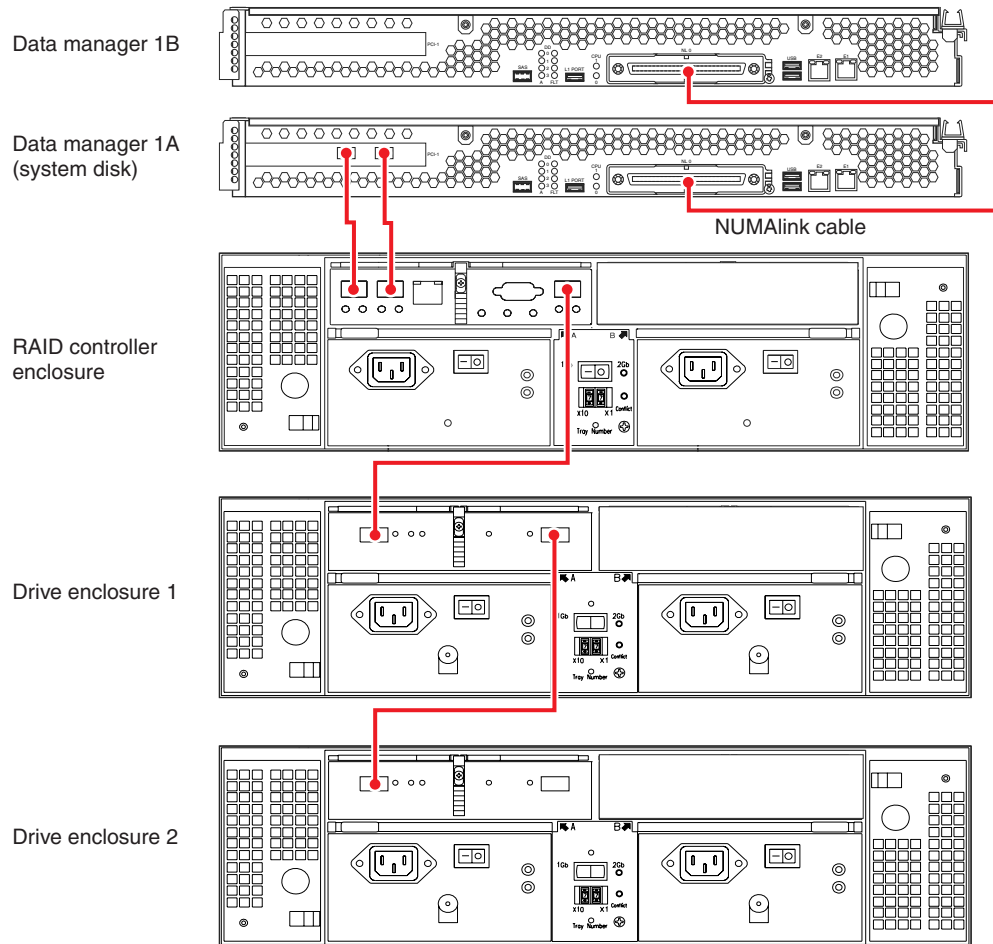

Figure 1-15 Two-Module Data Manager With One Fibre Channel Card, Single-RAID Controller Enclosure and Two Drive Expansion Enclosures
Use the following steps and Figure 1-15 to cable a two module data manager with one fibre channel card, a single-controller RAID enclosure and two disk expansion enclosures.
1. Connect Data Manager 1A's Fibre Channel PCI card port A (blue label [1A]) to RAID controller A's port 1 (blue label [1A]), see Figure 1-15.